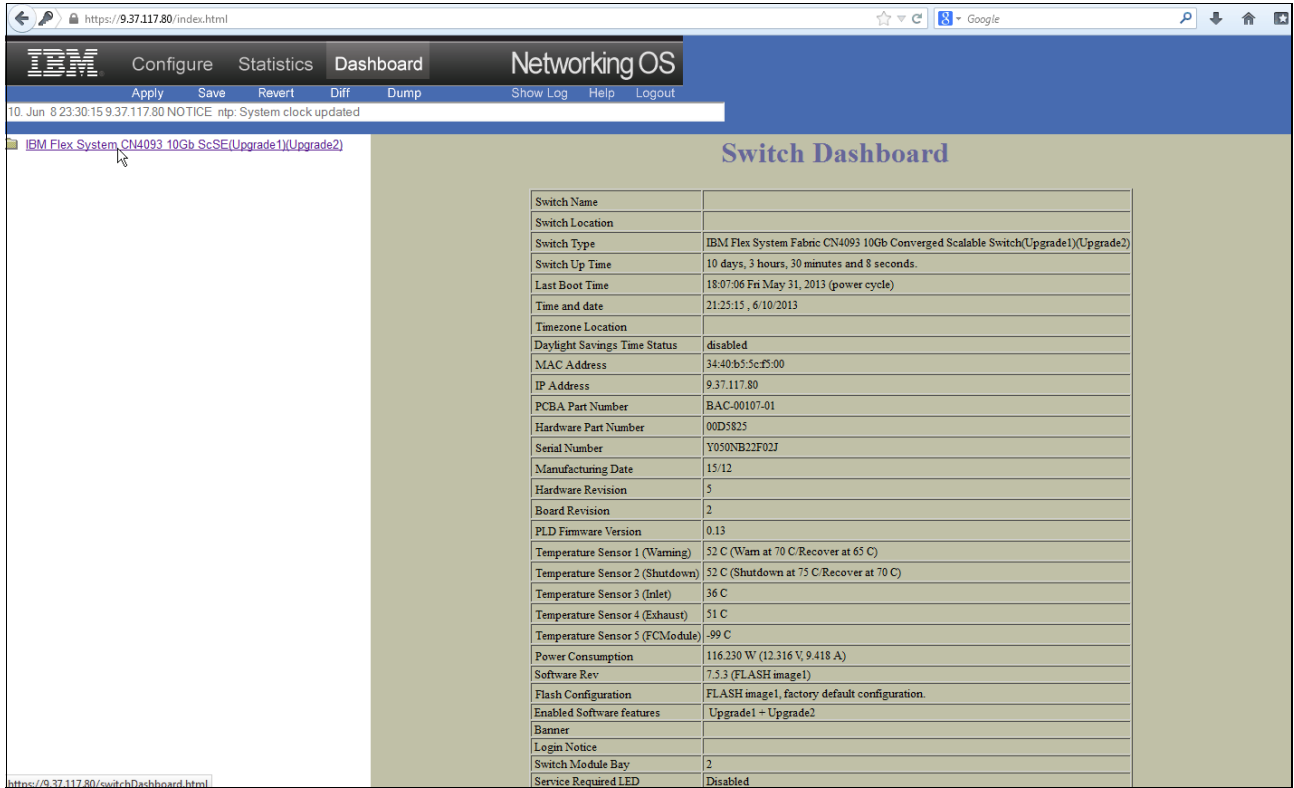

Figure 8-2 Switch Dashboard
2. Click the switch Dashboard title on the left of the panel as shown in Figure 8-2.